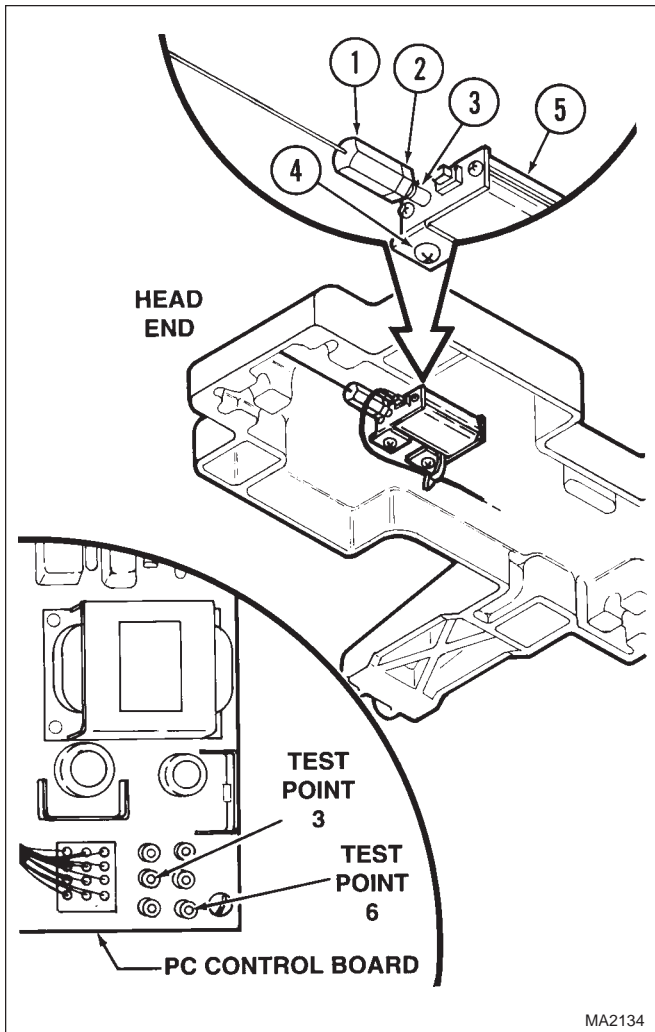

Figure 4-8. Back Transducer Adjustment
- (1) Remove electrical cover (Refer to para 4-4).
- (2) Plug the positive probe of the multimeter into Test Point 3 and the negative probe of the multimeter into Test Point 6 of PC control board. See Figure 4-8.
- (4) While pressing the Emergency COMPUTER CONTROL OVERRIDE SWITCH, press the BACK UP button until the back function reaches the end of its travel.
- (5) While holding cable/turnbuckle assembly (1, Figure 4-8), loosen nut (2).